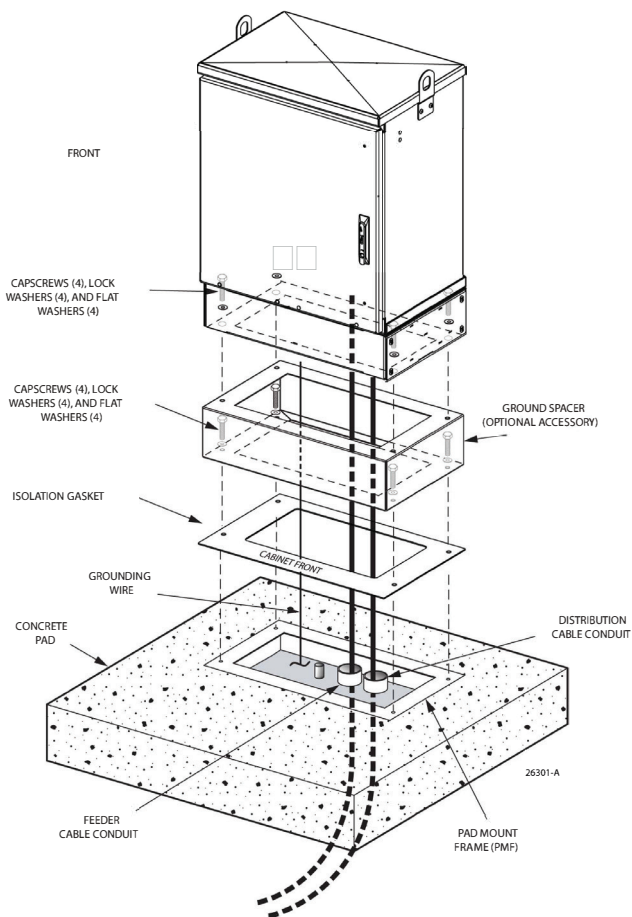

Figure 14. Mounting Cabinet on the Concrete Pad
11.2.3.1 Build a wood form for the concrete pad using 2 x 6 framing lumber as shown in Figure 14.
Use the 216B key tool to un-latch and latch the cabinet doors as needed during the mounting process. Refer to Figure 14 as necessary when mounting the cabinet.
Note: Illustration is for reference only ("Figure 14. Mounting Cabinet on the Concrete Pad").